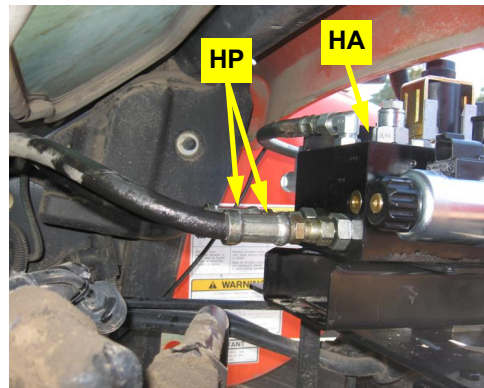

Figure 6c: Installed steering hoses at steering block
- c. Connect the steering output hoses **HP** to the **A** and **B** ports on the hydraulic steering block (Figure 6c).